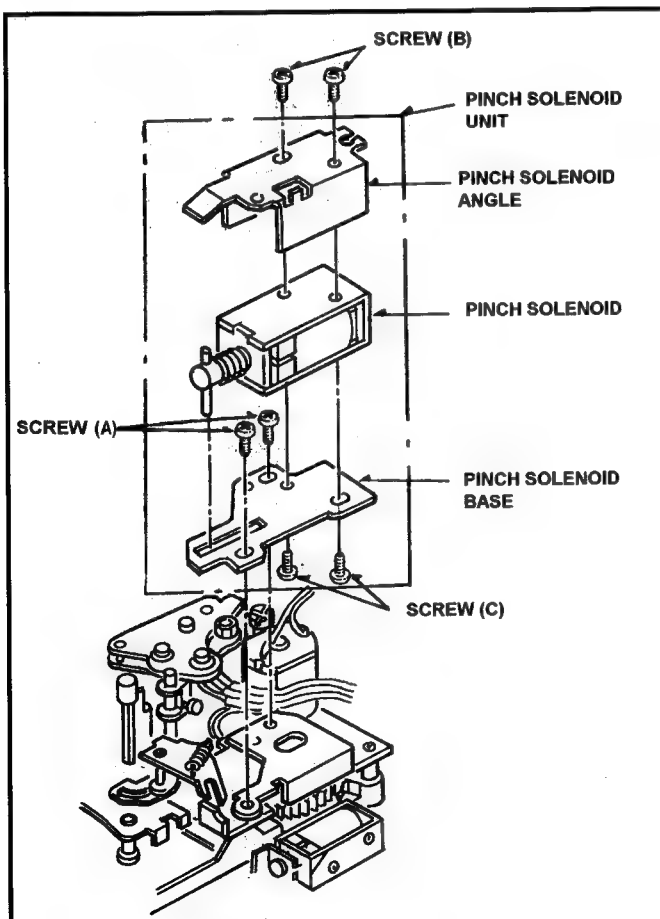

Fig.6-7-1 Removal Pinch Solenoid
5. Unscrew the 2 screws (A) and remove the Pinch Solenoid Unit as shown in Figure 6-7-1.
6. Unscrew the 2 screws (B) and remove the Pinch Solenoid Angle as shown in Figure 6-7-1.
7. Unscrew the 2 screws (C) and remove the Pinch Solenoid from the Pinch Solenoid Base.